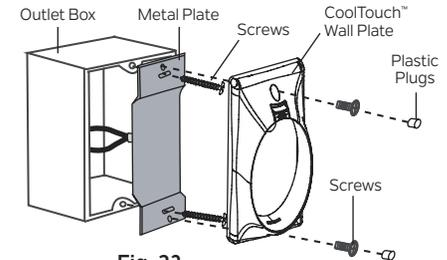

Fig. 23
Step 2. Install the metal plate and CoolTouch™ wall plate to the existing wall outlet box with 4 screws provided. Insert the two plastic plugs into the wall plate. (Fig. 23)